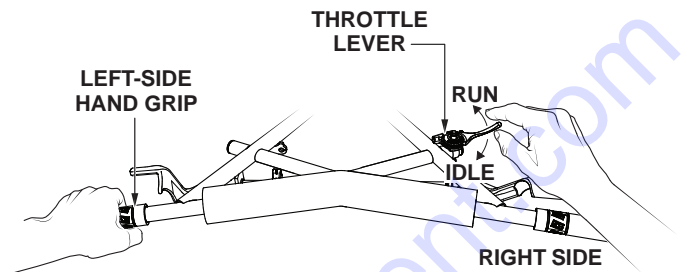

Figure 38. Throttle Lever (Run/Idle)
2. With one hand on the **left-side** handgrip, move the throttle lever (Figure 38) from the **IDLE** position to the **RUN** position.